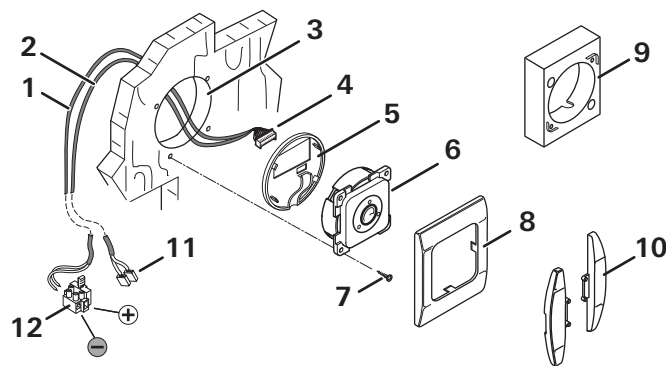

Fig. 3
- ▶ Choose a suitable place for the control panel (Fig. 3) in a clearly visible location.